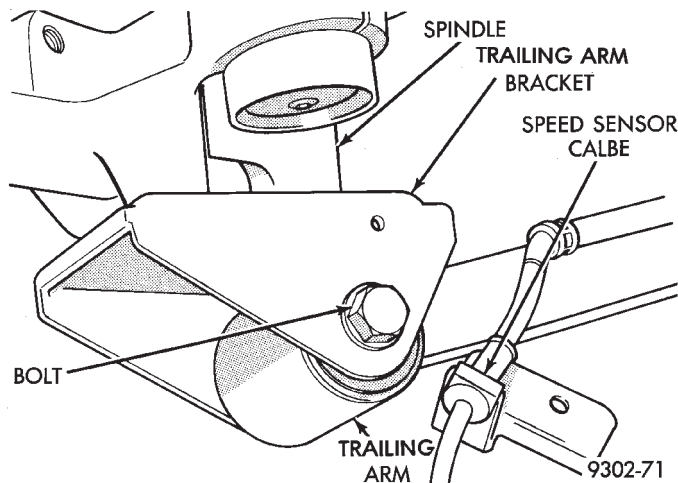

Fig. 15 Trailing Arm To Spindle Bracket Bolt
(3) Install bolt attaching trailing arm to trailing arm bracket on bottom of spindle (Fig. 15). Torque trailing arm to trailing arm bracket attaching bolt to 100 N•m (74 ft. lbs.).